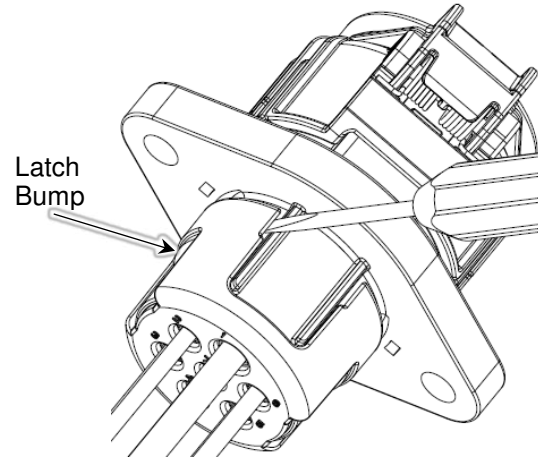

Figure 3
1. Insert a small, flat blade screwdriver into one of the notches on the end cap. Gently pry the end cap away from the receptacle body until the cutout of the endcap rests on top of the latch bump on the receptacle body. See Figure 3.